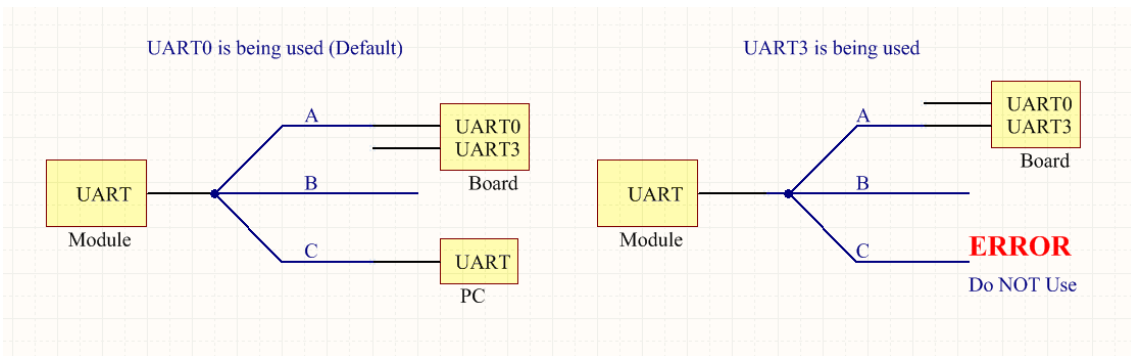
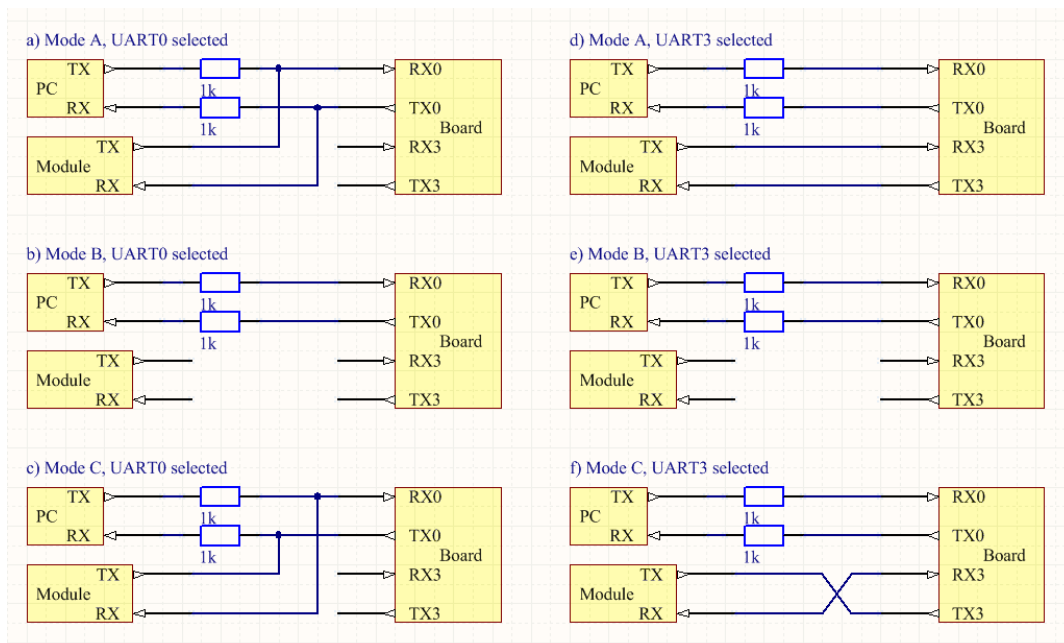

Figure 5-4 SW1 functionality; Simple
Figure 5-5 SW1 functionality; Detailed
Figure 5-4 and Figure 5-5 demonstrate the use cases of the switch SW1 and what each of its positions (A, B or C) mean given that a specific UART is being used.
- **Switch position "A"**: Module's TX is connected to Board's RX0 and Module's RX is connected to Board's TX0, therefore the **Module talks directly to the Board via UART0**. A controlling PC could be allowed to listen on the data transmitted from Board to WSA01, but should not talk on the line, as it will be perceived by the Board as data sent by WSA01. See Figure 5-5 (a).
- **Switch position "B"**: The Module is disconnected from the Board's UART. In this mode, the PC can talk freely to the Board and the Module will not interfere. **This is the recommended mode for uploading (new) sketches to Board**, as it guarantees no interference from the Module. See Figure 5-5 (b).
- **Switch position "C"**: Module's TX is connected to Board's TX and Module's RX is connected to Board's RX. **This configuration allows the Module to talk directly to the PC**. It is mandatory to instruct the Board not to interfere with the communication. This can be achieved by uploading Sketch01 to the Board in advance. See Figure 5-5 (c).
- **Switch position "A"**: Module's TX is connected to Board's RX3 and Module's RX is connected to Board's TX3, therefore the **Module talks directly to the Board via UART3**. The Board is free to communicate to the PC on UART0. The Module cannot interfere. If a direct connection between PC and Module is desirable, Sketch02 should be uploaded to Board, as it will forward any packets from UART0 to UART3 and vice versa. See Figure 5-5 (d).
- **Switch position "B"**: The Module is disconnected from the Board's UART3. See Figure 5-5 (e).
- **Switch position "C"**: Module's TX is connected to Board's TX3 and Module's RX is connected to Board's RX3. **This setting should NOT be used**. See Figure 5-5 (f).